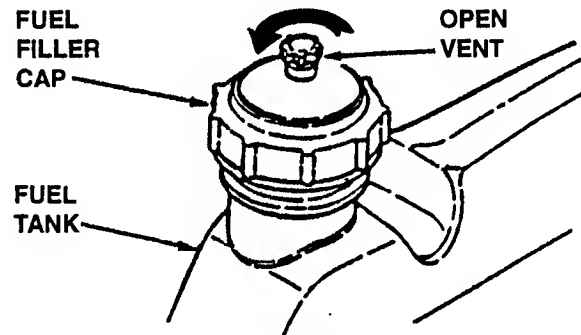

FIGURE 2.6
4. Open vent on fuel filler cap by turning counterclockwise. **IMPORTANT:** Failure to open vent on the fuel filler cap can cause engine to stall. See Figure 2.6.
4. Open vent on fuel filler cap by turning counterclockwise. NOTE: Failure to open vent on the fuel filler cap can cause engine to stall. See Figure 2.6.